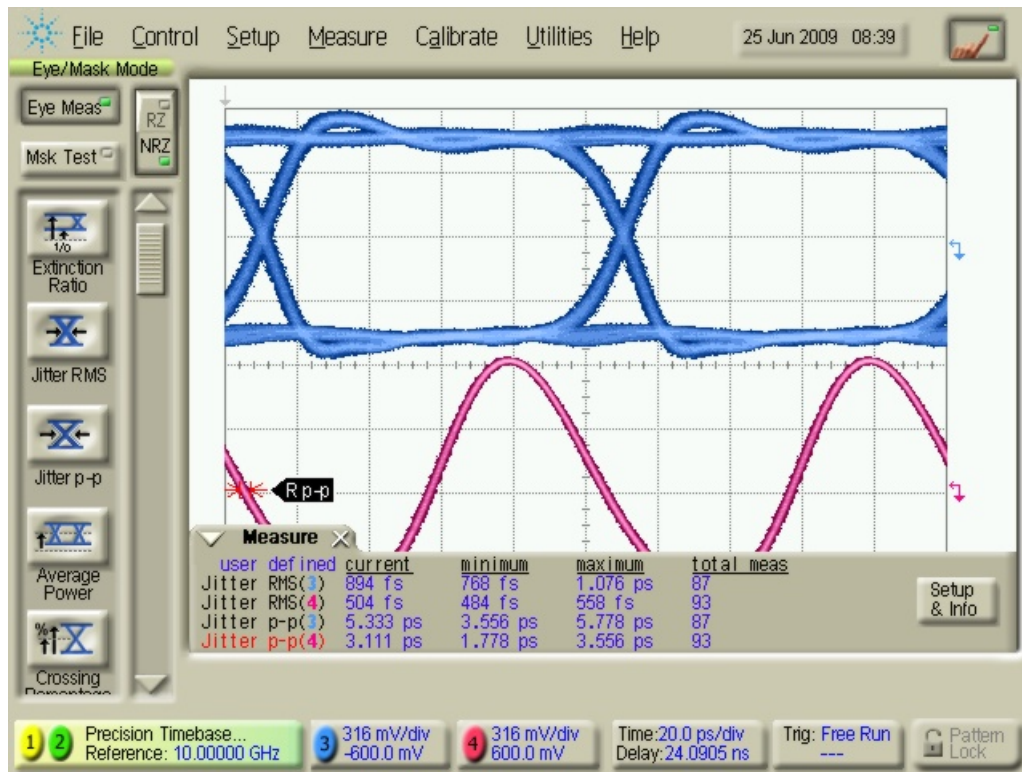

Figure 22. Jitter measurement of the N4971A
- 6. Figure 22 shows the measured jitter of the N4971A, clock, and data outputs.